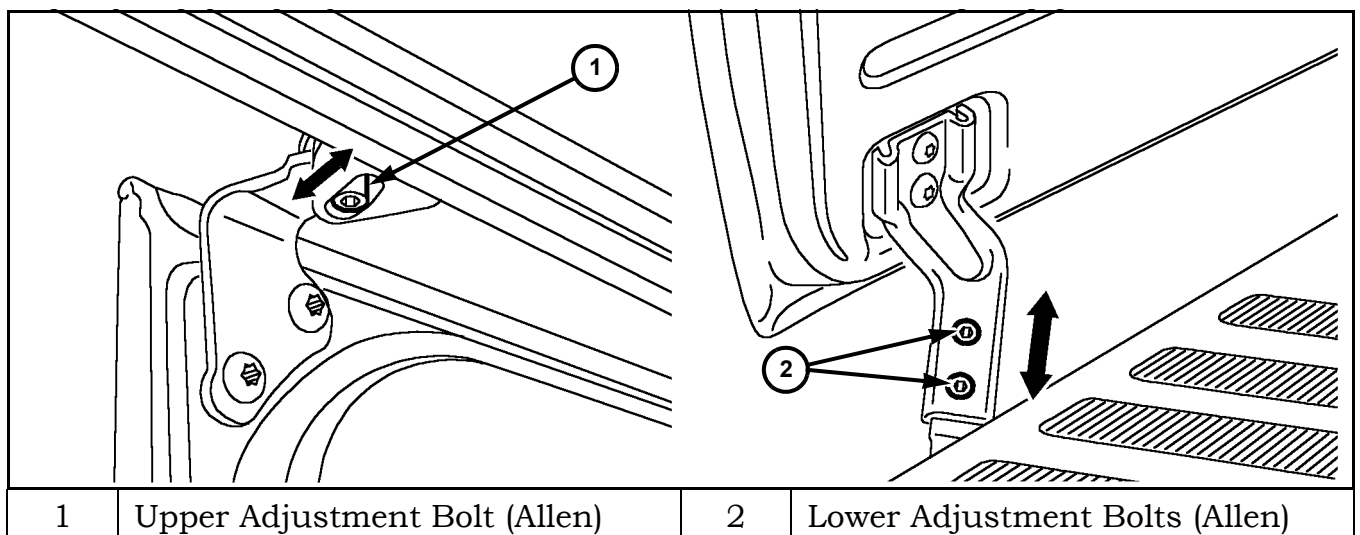

Figure 11 Front of Door Flushness Adjustment
- Loosen upper and lower roller arm adjustment bolts (Figure 11).